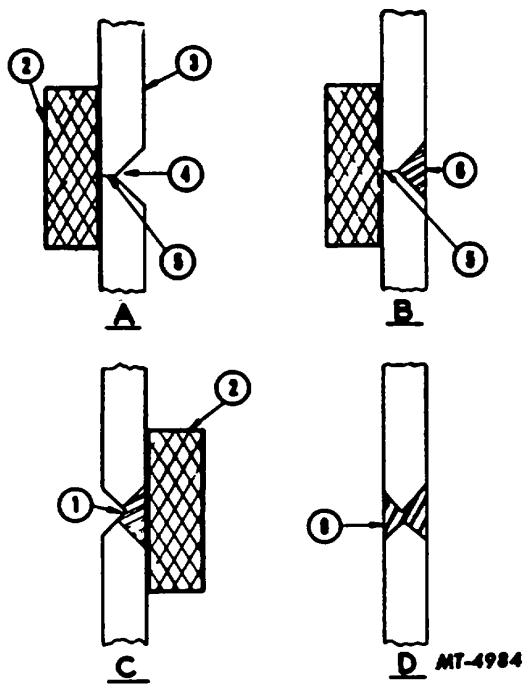

Fig. 7.
A, heavy copper strip or "chill" should be clamped to the rail side away from the groove to help control the temperature and cooling rate. See Fig. 7. Discarded short lengths of heavy copper electrical bus bars make suitable chills.
When sufficient metal has been deposited, the weld bead should be ground flush, Fig. 7, with the surface being repaired.
f. Where both sides of the frame rail are accessible, a V-groove is ground from the side opposite the repair and the procedure outlined above repeated. Dependent upon accessibility, chill strips should be used wherever possible. The V-groove ground on the opposite side of the repair should be deep enough to enter the sound metal of the first weld repair "C" of Fig. 7.